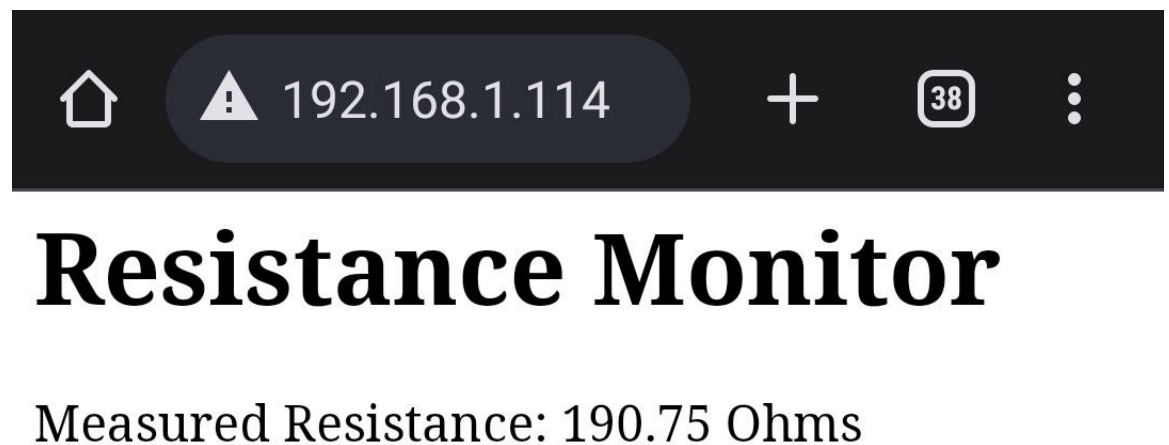

Figure 1.1.9.1: Website
1.1.9. In the website loaded by the IP address of vaman-ESP the Unknown resistance is displayed as shown in Fig. 1.1.9.1